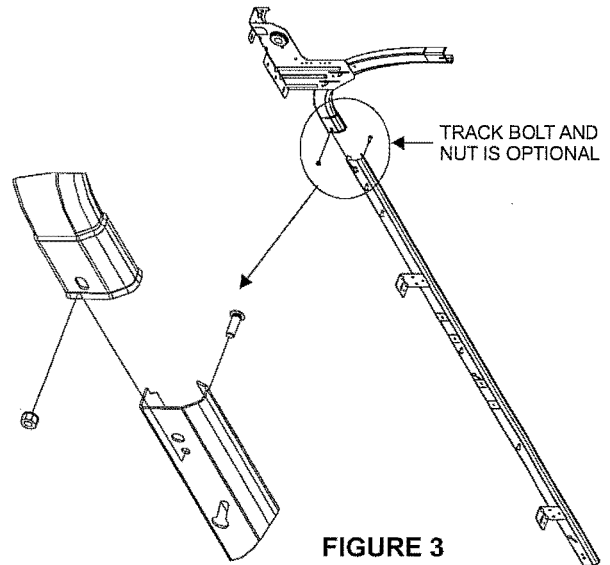

FIGURE 3
- Install the transitional curve and flag bracket assembly on the vertical track assembly by sliding the vertical track into the swedged end of the curve track. (See Figure 3) Secure the track and curve with track bolt and nut.